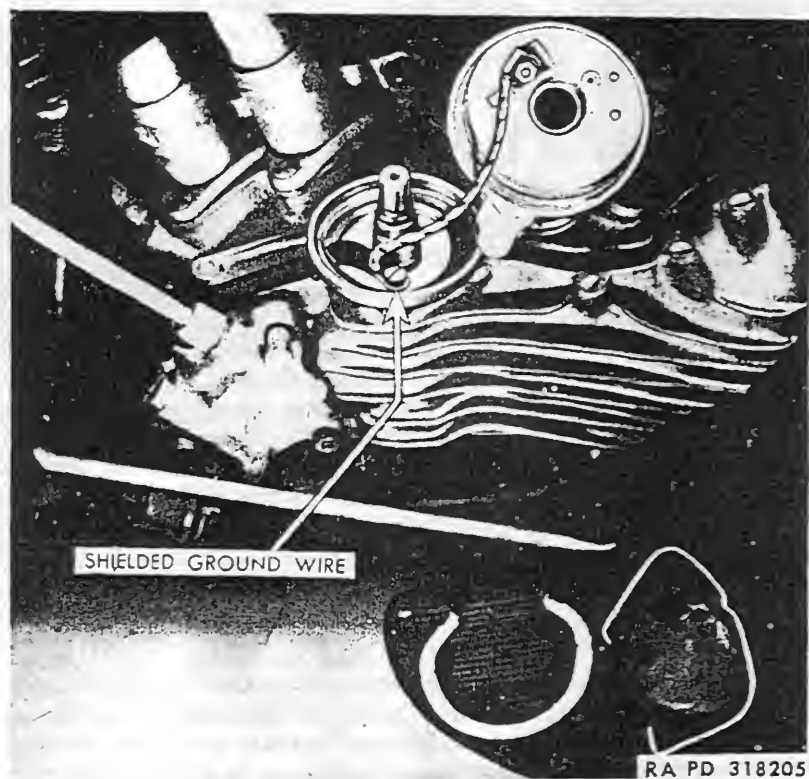
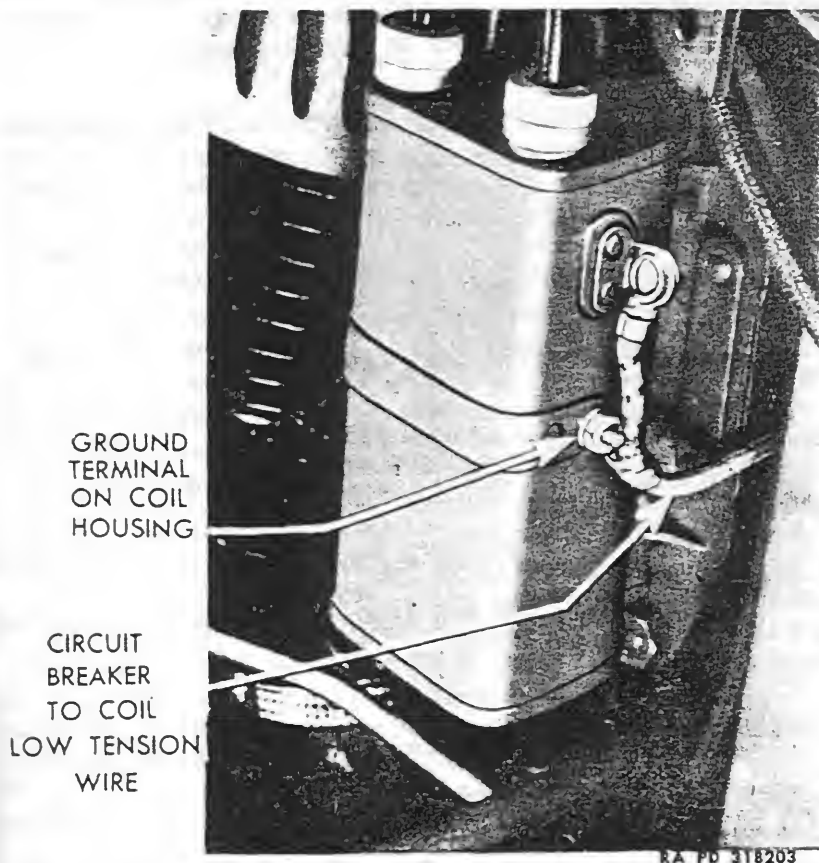

Figure 52—Shielding of Coil to Timer Wire Grounded on Base
Figure 53—Shielded Coil to Timer Wire Correctly Connected at Coil
(8) Fully advance spark lever (push inward toward engine) and observe how closely mark on breaker cam lines up with breaker lever fiber. If mark does not line up, lift timer base and turn shaft gear so its engagement with its driving gear is changed one tooth. Check again according to breaker cam mark and breaker lever fiber. Repeat this procedure until gear engagement is obtained which closely aligns cam mark and breaker lever fiber.
(9) See that timer base is turned so that timer to coil wire is toward rear of engine.
(10) Install timer base screws and lock washers. Make sure that timer to coil wire shielding is grounded under head of screw farthest away from engine (fig. 52). Securely tighten screws.
(11) Install timer head on base and secure with ground spring and cover retainer. Be sure ground spring is in its proper place so that when cover retainer ends are fitted through holes in the timer head, they will also fit into spring locating notches. It will be necessary to press ground spring upward under timer base to engage retainer ends in the spring notches. *NOTE: If cover retainer ends do not engage ground spring notches, spring will have no tension and timer head will be loose on its base.* Circuit breaker points and condenser are electrically grounded through timer base, and ground spring holds the head and base in close contact, thus assuring a good ground.
(12) Connect spark control wire and timer lever and adjust (par. 88).
(13) Engine is now timed according to original factory setting, providing mark on side of timer head and hole in head adjusting band are still in alignment, and circuit breaker point gap is 0.022 inch. Even though all ignition timing marks are in perfect alignment, as outlined in the foregoing instructions, it is advisable to accurately check ignition timing (step d following).
(8) With ignition timing correct, front cylinder piston is $\frac{9}{32}$ inch before top dead center, on compression stroke, when circuit breaker points just start to open. At this point spark occurs, igniting front cylinder fuel charge.
(9) Install flywheel inspection hole plug in left crankcase.
87. COIL TO TIMER WIRE (figs. 52 and 53).
(1) Disconnect battery negative ground wire at frame connection.
(2) Remove the two bolts which secure upper end of air cleaner bracket to frame tube. Swing air cleaner and bracket outward and forward to gain access to spark coil rear terminal.
(3) Disconnect coil to timer wire terminal from coil rear connection. Disconnect wire shielding from coil rear ground connection.
(4) Refer to paragraph 86 b (1) to (4) for timer head removal.
(5) Remove timer base mounting screw which secures wire shielding (fig. 52).
(6) Note position of coil to timer wire inside of timer head; then remove nut washer connecting wire to insulated contact stud.
(7) Work old wire and loom out of timer head hole and free from vehicle.
(8) On earlier models, the coil to timer wire was soldered to end of insulated stud. Removal of stud is necessary to remove this wire, or replace it with a shielded wire. Note location of stud insulations on inside and outside of timer head, for correct installation with reassembling.
(1) Pass end of wire, shield terminal, and loom up through hole in timer base.
(2) Ground the wire shield terminal under head of timer base mounting screw (fig. 52).
(3) Connect wire end terminal to insulated stud so that wire leads away from stud in direction shown (fig. 52).
(4) Pass coil to timer wire up alongside and to rear of frame saddle post tube to reach rear of spark coil.
(5) Ground the wire shield terminal to coil rear ground connection (fig. 53).
(6) Connect wire terminal to coil rear primary connection (fig. 53).
(5) Swing air cleaner and bracket assembly outward to gain access to coil rear terminals.
(6) Disconnect coil to timer wire from coil rear terminal screw. Disconnect wire shielding from coil rear ground terminal (fig. 53).